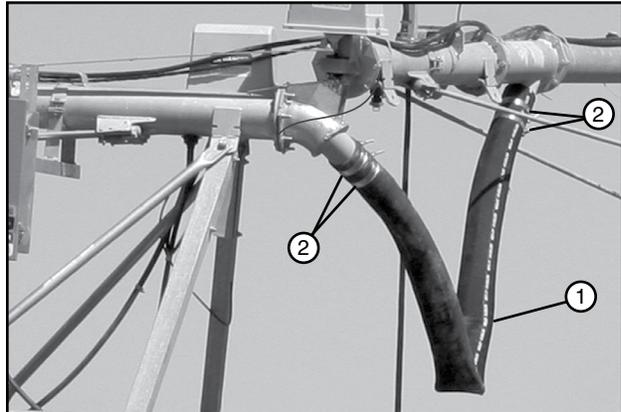

Figure 64-1 1. 4-1/2 In Hose
If the 4-1/2 in hose is sufficiently weather-cracked, checked, or leaking, you need to replace the hose. Follow the steps below to replace the 4-1/2 in hose. See Figure 64-1.
1. Loosen the hose clamps. See Figure 64-1.
5. Tighten the hose clamps. See Figure 64-1.